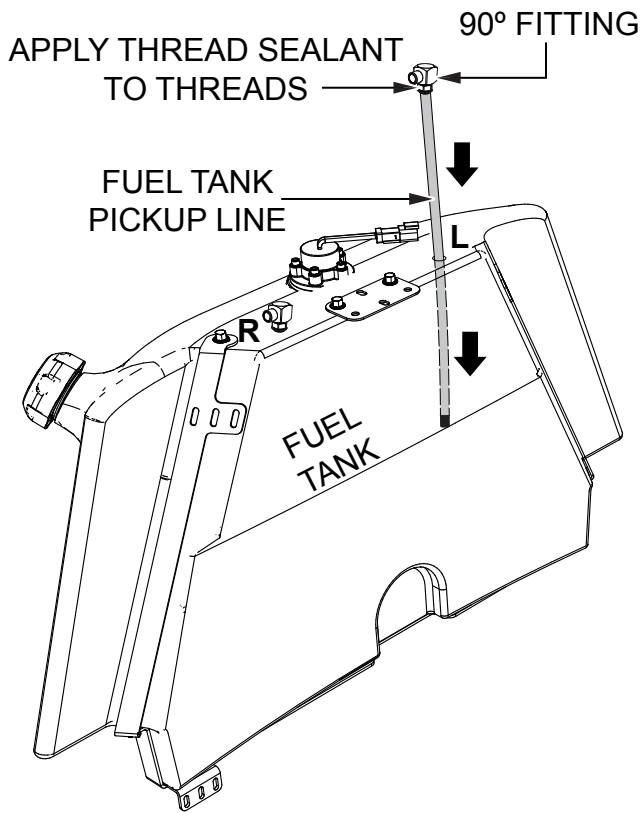

Figure 6. Fuel Tank Pickup Line Reinstallation
1. Apply thread sealant to the threads on the 90° fitting (Figure 6).
2. Reinstall the fuel tank pickup line and tighten the 90° fitting securely (Figure 6).